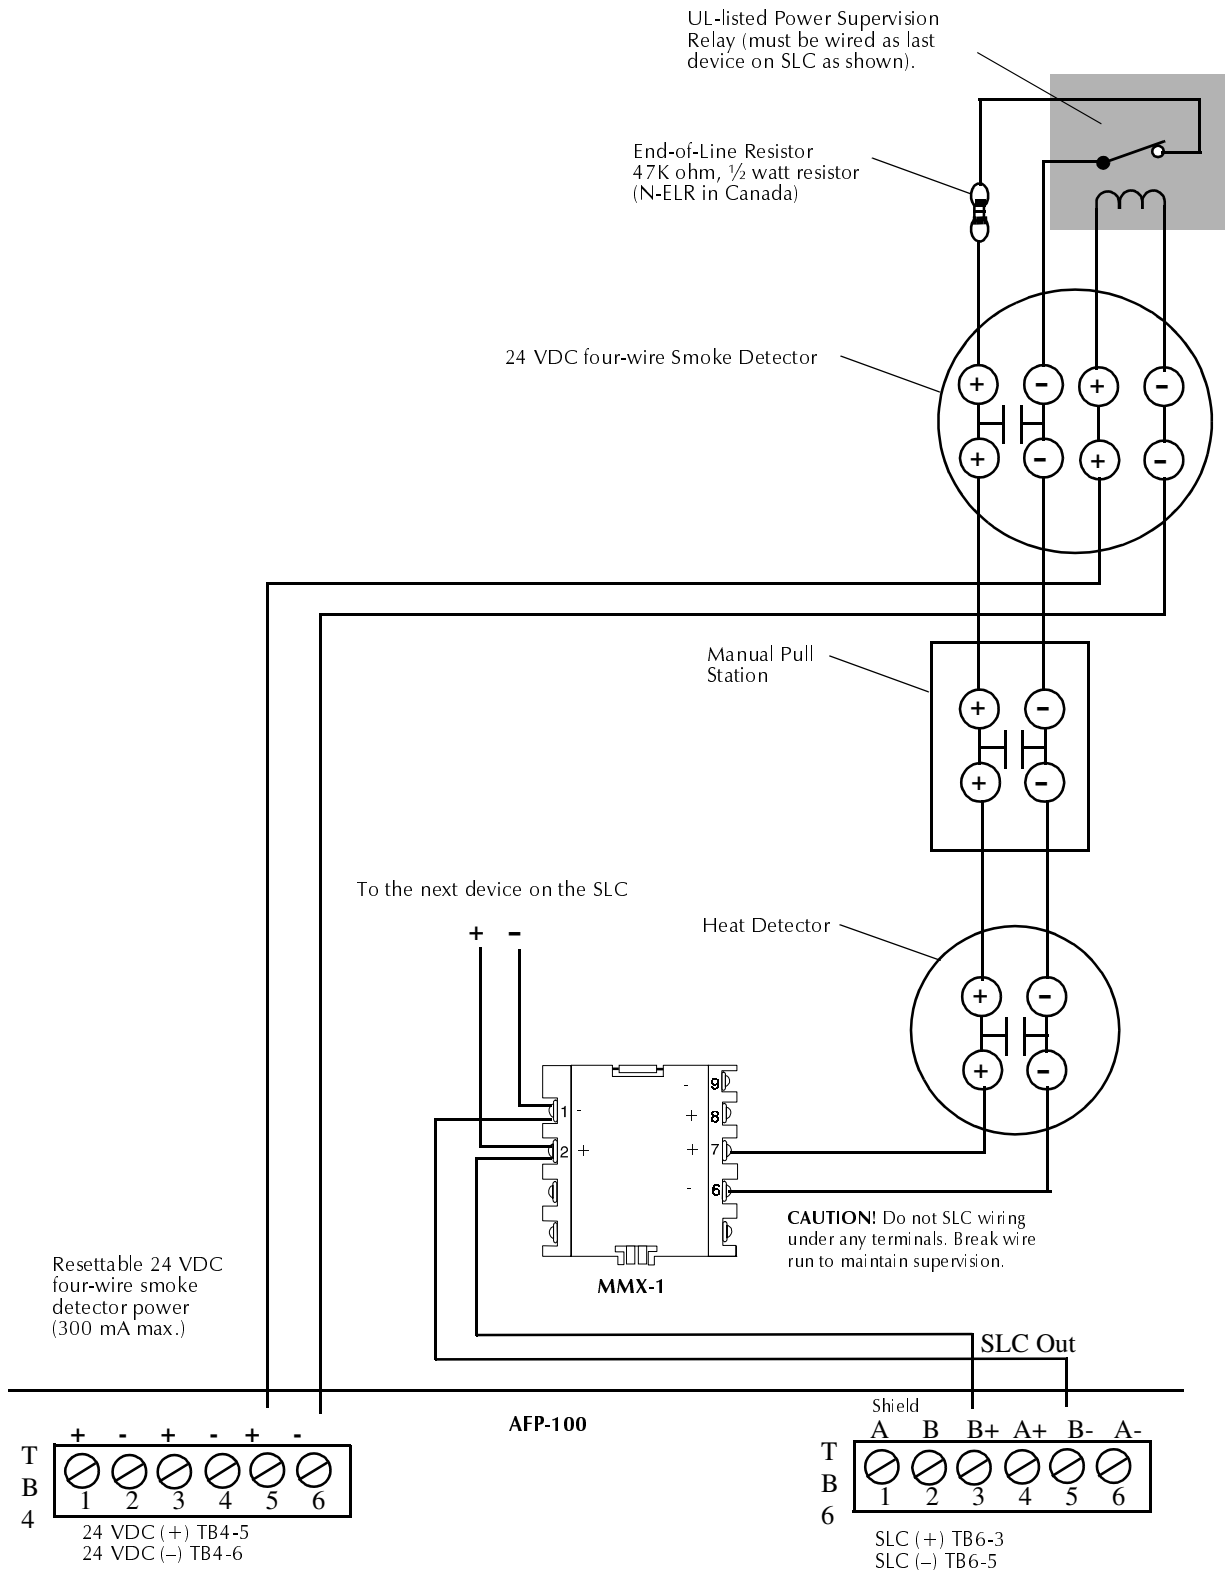
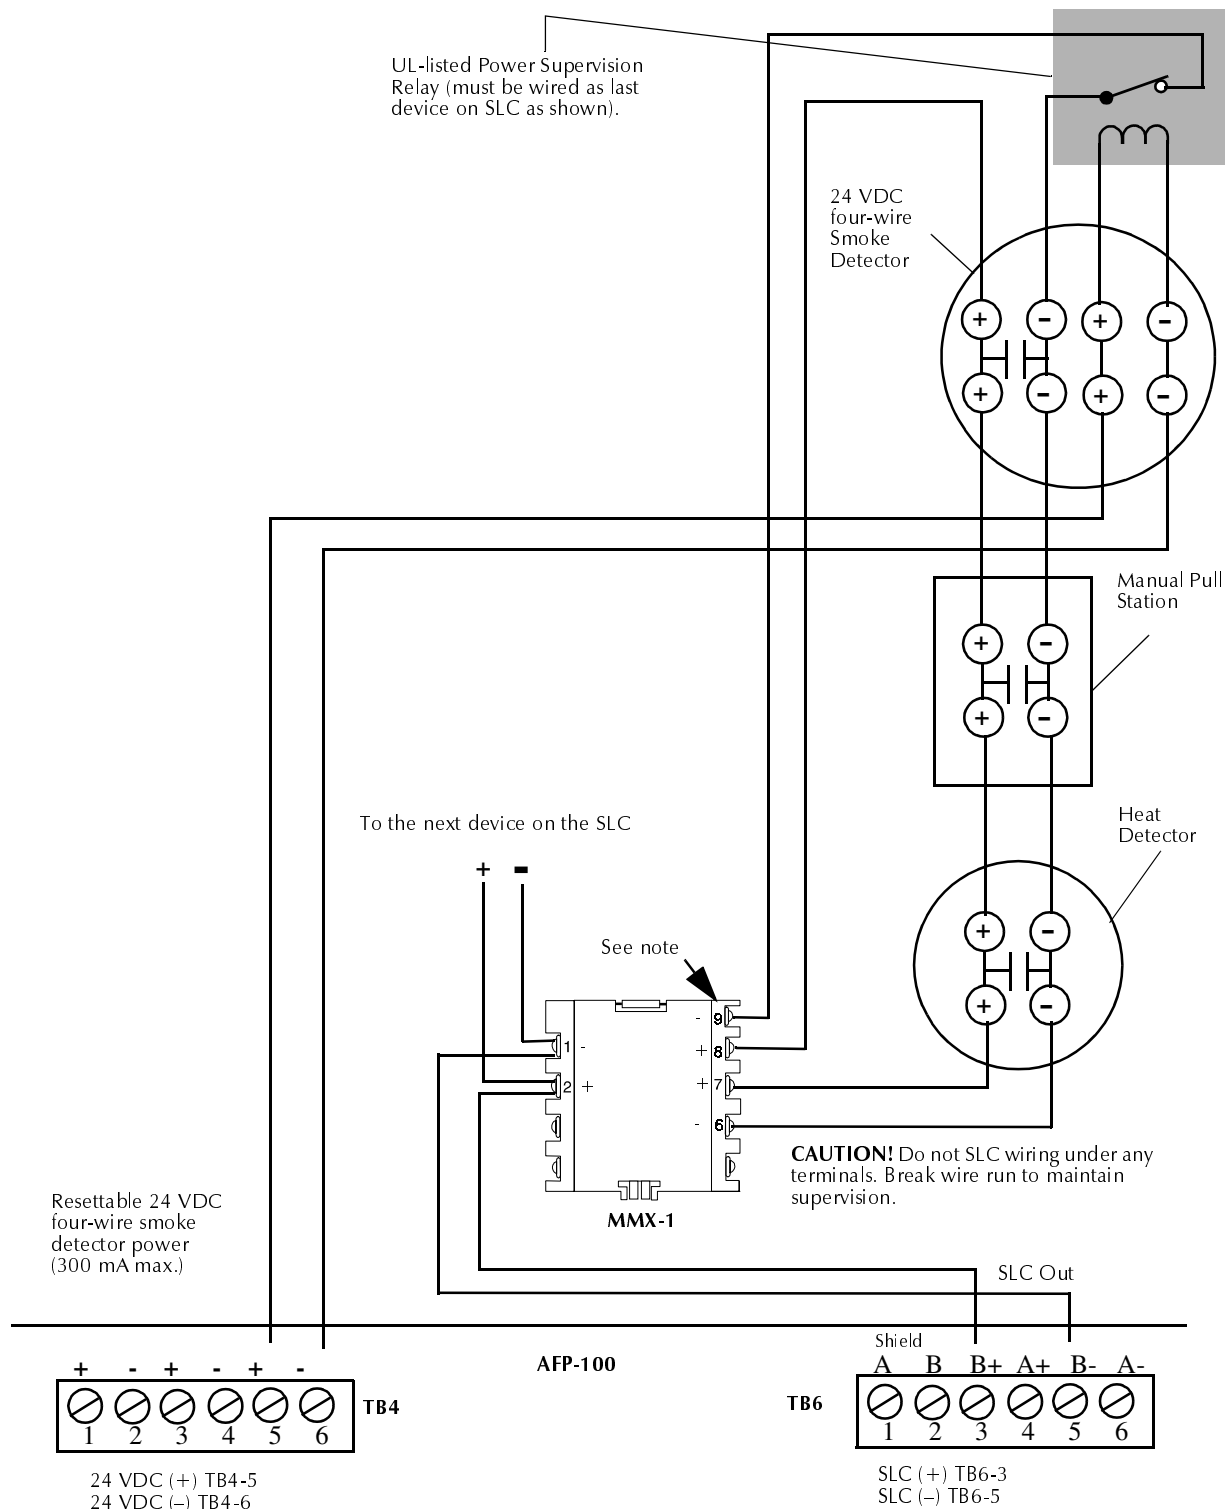

Figure 28 Style B Circuit using an MMX-1 Module
Figure 29 Style D IDC using an MMX-1 Module
The MMX-1 Monitor Module is an addressable module that monitors normally-open contacts and shorting-type alarm initiating devices. The supervised module circuits can be wired as NFPA Style B or Style D Initiating Device Circuits. There is no limit to the number of contact-type devices installed on a monitor module circuit. Refer to Figure 28, "Style B Circuit using an MMX-1 Module," on page 45 and Figure 29, "Style D IDC using an MMX-1 Module," on page 46, for wiring diagrams.
**NFPA Style B Initiating Device Circuit** Connect the normally-open contacts of the alarm initiating devices to a single two-wire circuit as illustrated in Figure 28, "Style B Circuit using an MMX-1 Module," on page 45. Connect the circuit to MMX-1 terminals 6(–) and 7(+).
**NFPA Style D Initiating Device Circuit** Connect the alarm initiating devices to a single four-wire circuit as illustrated in Figure 29, "Style D IDC using an MMX-1 Module," on page 46. Connect the four-wire circuit to MMX-1 terminals 6(–) and 9(–), then 7(+) and 8(+).
The NFPA Style B IDC (Initiating Device Circuit), using an MMX-1 module, is supervised and power-limited. Figure 28 shows typical wiring for a Style B IDC: